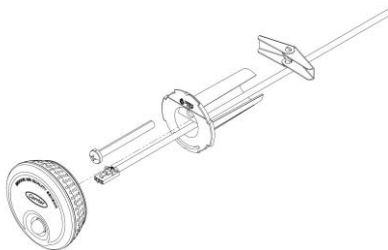

Figure 2
2. Connect the Sensor Bus cable through the grommet/grommet screw mounting to the Multi Sensor. Refer to Figures 2 to connect the wire to the multi-sensor.